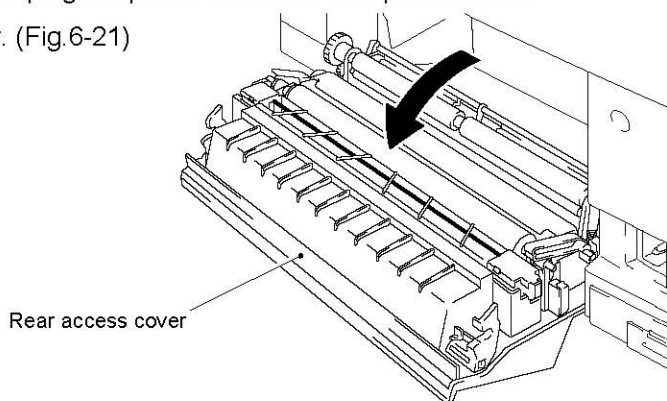

Fig. 6-22
- (1) Pull the right hand side of the paper discharger slightly, then lift it out of the transfer unit to remove the paper discharger. (Fig.6-22)